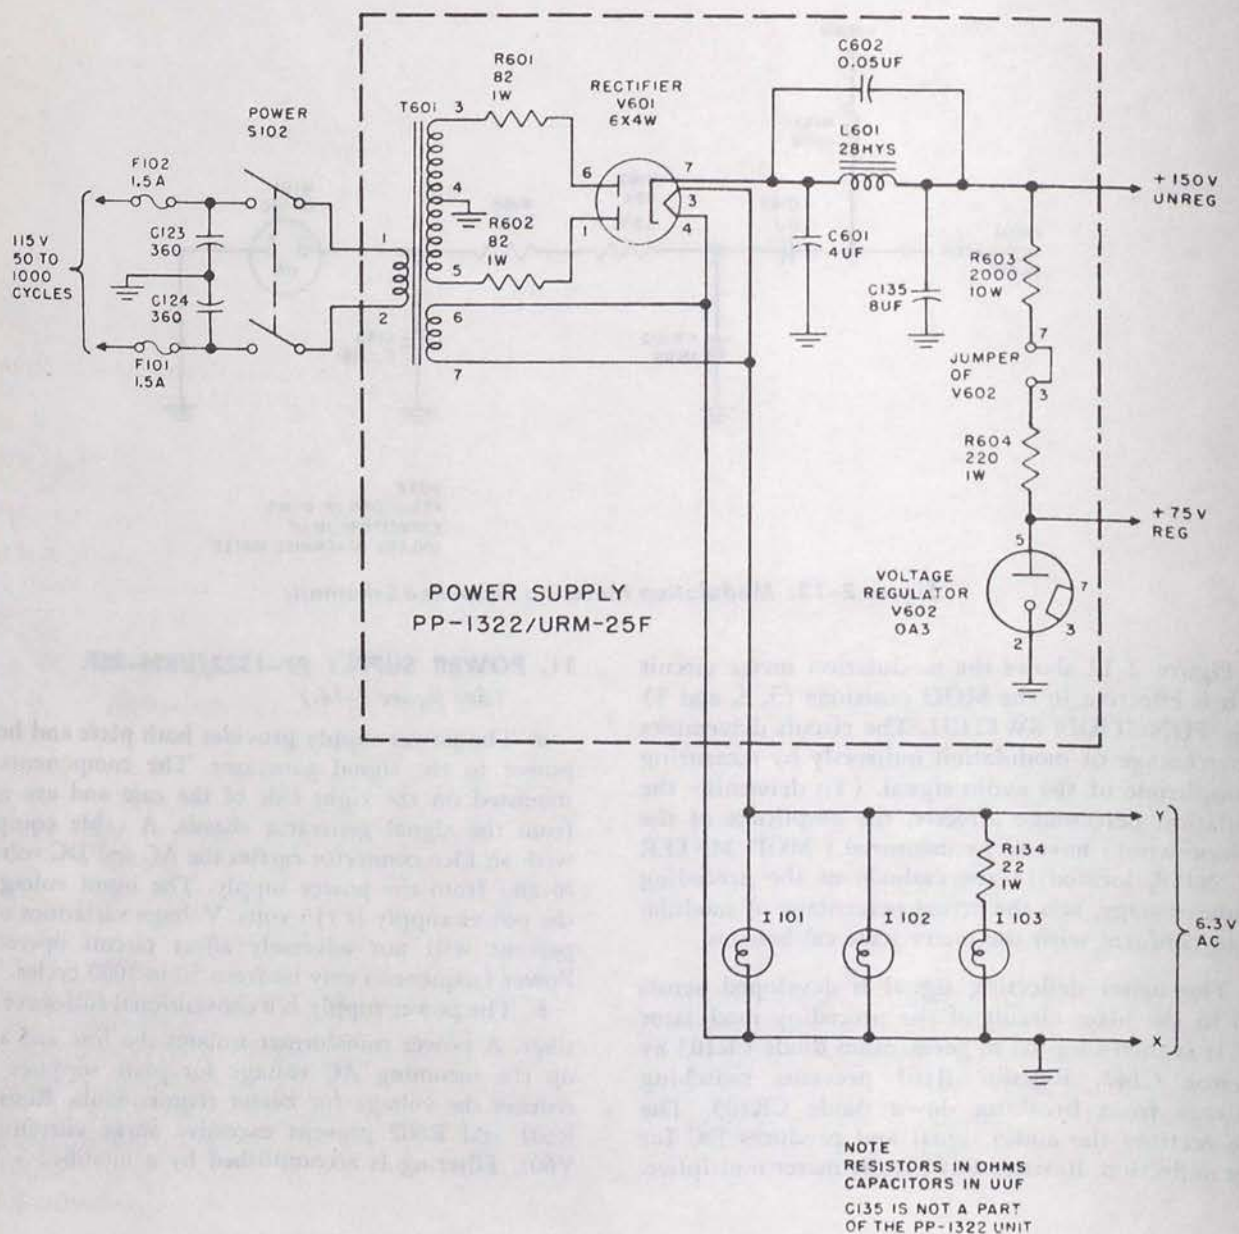

Figure 2-14. Power Supply PP-1322/URM-25F Simplified Schematic
11. POWER SUPPLY PP-1322/URM-25F. (See figure 2-14.)